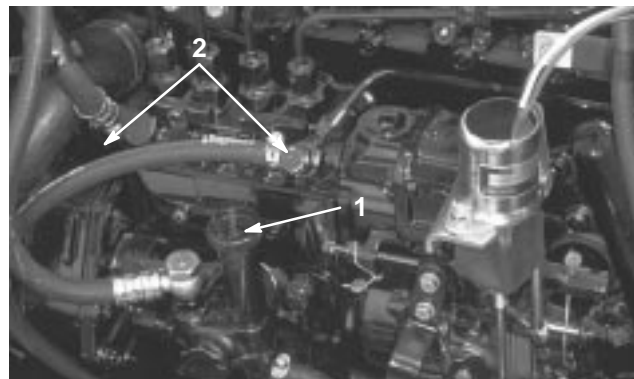

Figure 26
5. Loosen air vent plug on injection pump about 1-1/2 turns (Fig. 26). Operate priming pump until solid stream of fuel flows from the vent hole (Fig. 26), then tighten air vent plug.